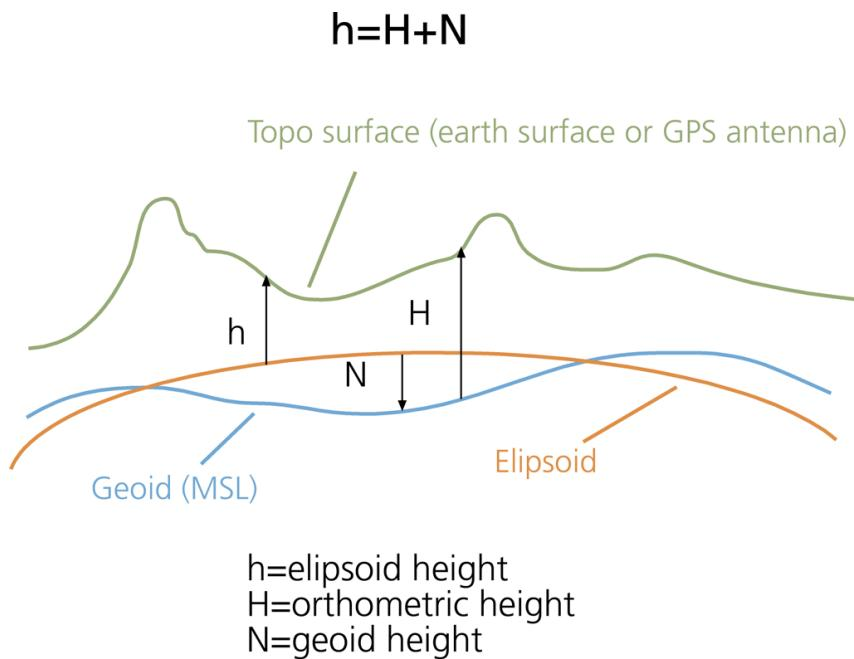

Figure 5 Different Heights and association between them
- Orthometric Height which can be roughly approximated as Mean Sea Level (MSL) needed to be calculated. Below Figure 5 will help us understand this
- In above Figure 5 my job was to calculate  $H$  with respect to  $h$  and  $N$ .  $h$  called as Ellipsoid Height is nothing but GPS Height.  $N$  called as Geoid Height is height of MSL with regards to gravity of earth.
- In above Figure 5 ellipsoid height is closest approximation of earth surface as earth surface is very rough and uneven. Geoid height  $N$  is variation of sea level for different geographic locations. For e.g., MSL for Chicago can be assumed as 0 and MSL for Miami can also be assumed as 0. However, reference 0 point for these 2 locations is not 0.